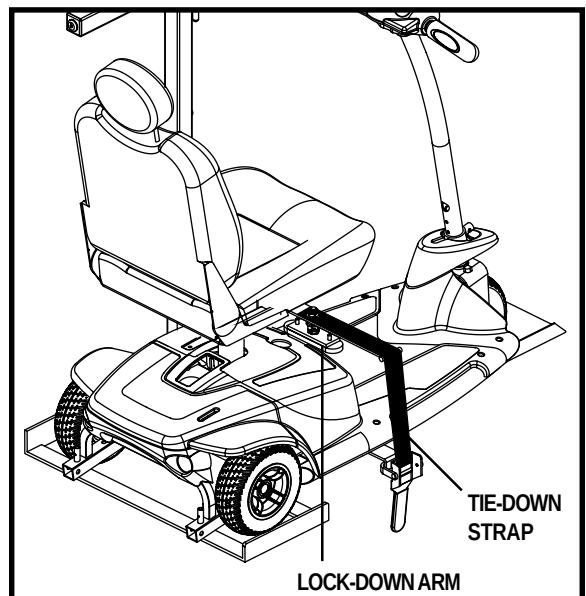

Figure 7. Power Tote P-150 Lock-down Arm
5. Lower the lock-down arm over the mobility device floorboard. See figure 7.
8. Attach the tie-down strap to the securement bracket on the platform and tighten the strap. See figure 7.